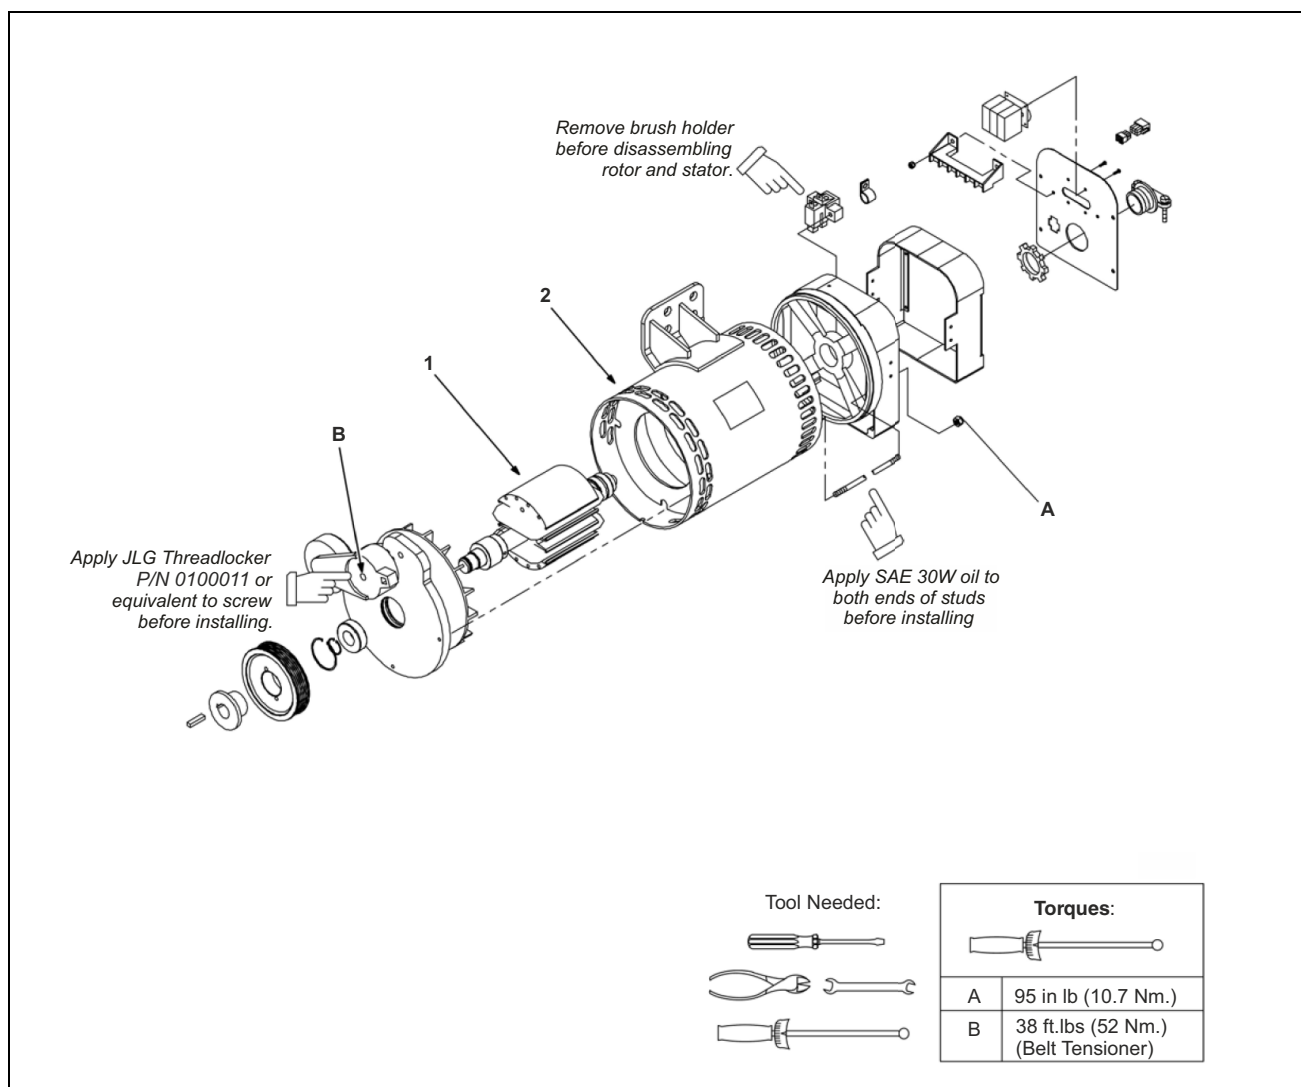

Figure 3-88. Generator Disassembly and Assembly
3. Disassemble generator parts shown in Figure 3-88.